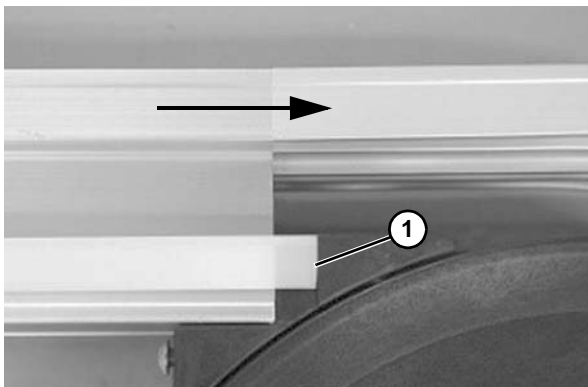

Figure 37
1. **Infeed Wheel Bend:** Cut the slide rail end (**Figure 37, item 1**) in flat. Make sure there is a 5 mm gap created at the plastic molding part. The step is applied onto outfeed as well.